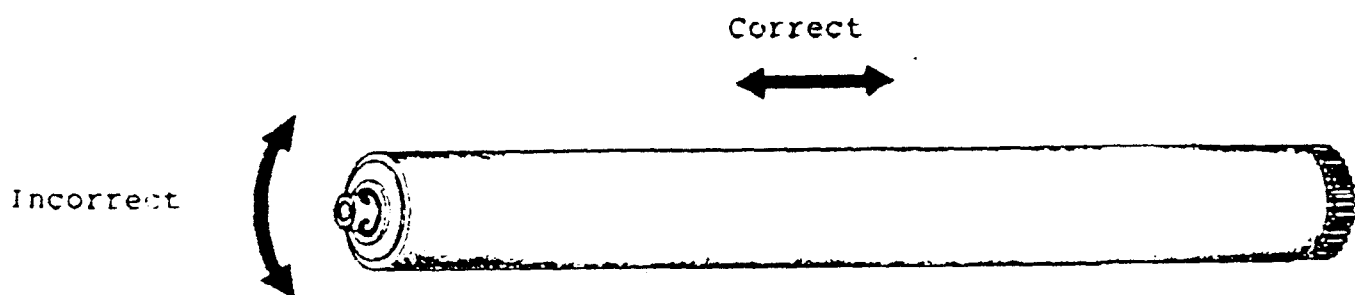

Fig 4
- 2.2 Using a fine grade waterproof emery paper (wet and dry) no heavier than a grade 400, lightly rub along the length of the platen (Fig 4.) until the whole platen has been effectively de-inked.